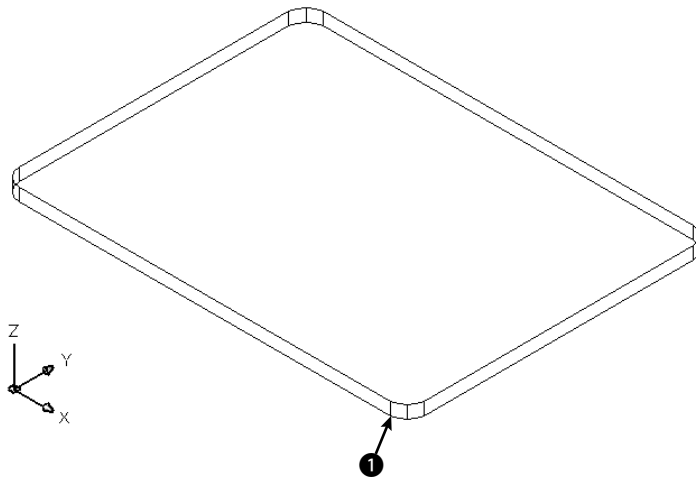

Figure 23-28: The tabletop.
2. Save it as ab23-05.dwg in your AutoCAD Bible folder. You see a tabletop. Its bottom is at a Z height of 30. The current elevation is 30. You're looking at the table from the SE isometric view. OSNAP should be on. Set running object snaps for endpoint, midpoint, and center. The current layer is Const. The drawing is shown in Figure 23-28.
_from Base point: *Pick the endpoint at ❶ in Figure 23-28.*